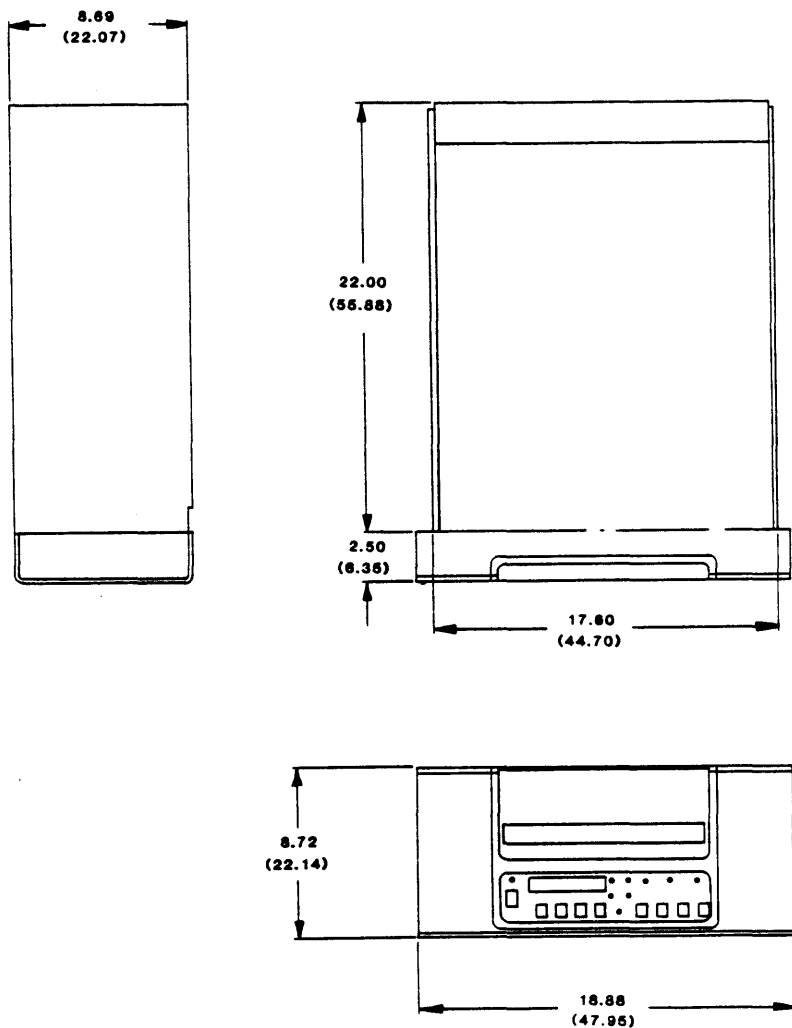
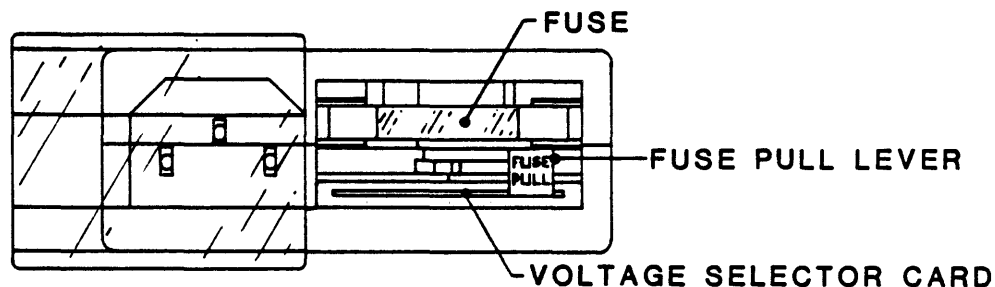

Figure 2-6 Outline And Installation Drawing
Figure 2-8 Power-In Assembly
Place the Drive on a flat table top with dimensions to accommodate the Drive (Figure 2-6) and of sufficient strength to support the weight of the Drive. Do Steps E and F in paragraph 2.4.2.2.
Unless otherwise ordered, the Drive is factory-set for 120-volt operation. Other voltage choices can be 100, 220, or 240. Locate the Power-In Assembly (Figure 2-8) at the rear of the unit (Figure 2-6), and verify that the Voltage Selector Card behind the plastic slide cover is installed with the correct voltage legible (as ordered).
- A. Remove the ac power cord (if installed) from the Power-In Assembly (Figure 2-8), slide the plastic cover to the left and, using long nose pliers (if necessary), remove the Voltage Selector Card.